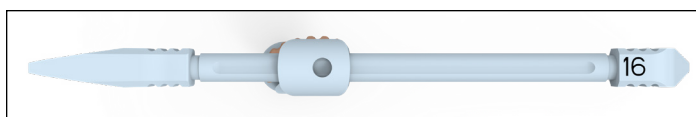

Figure 37
- In a native joint for a hinge procedure, where Triathlon Revision Baseplate is used, to maintain the joint line, the minimum tibial resection from the **native joint line is 16mm**. 16mm of bone will be resected with the initial proximal resection when using the “16” end of the Hinge Tibial Stylus (**Figure 37**).